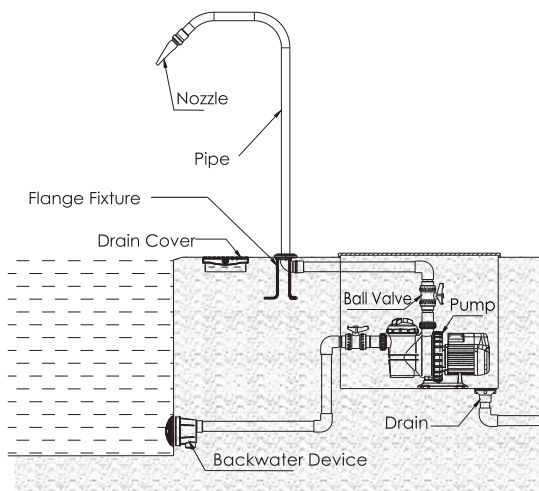

Figure 4
- Install with ball valve in order to control the water flow (Figure 4).
- Install the pump and connect to the power (Figure 4).